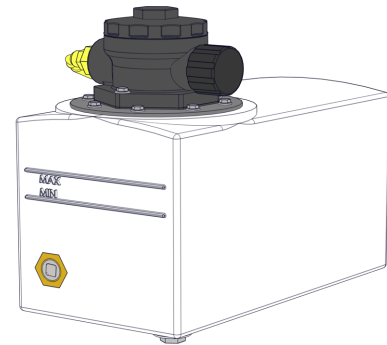

Figure 27 - Hydraulic Tank
3. Clear all debris from around the hydraulic tank (Figure 27).
9. Refill with hydraulic oil VG32 to between the 'Min' and 'Max' lines on the tank (15 litres) (Figure 27).